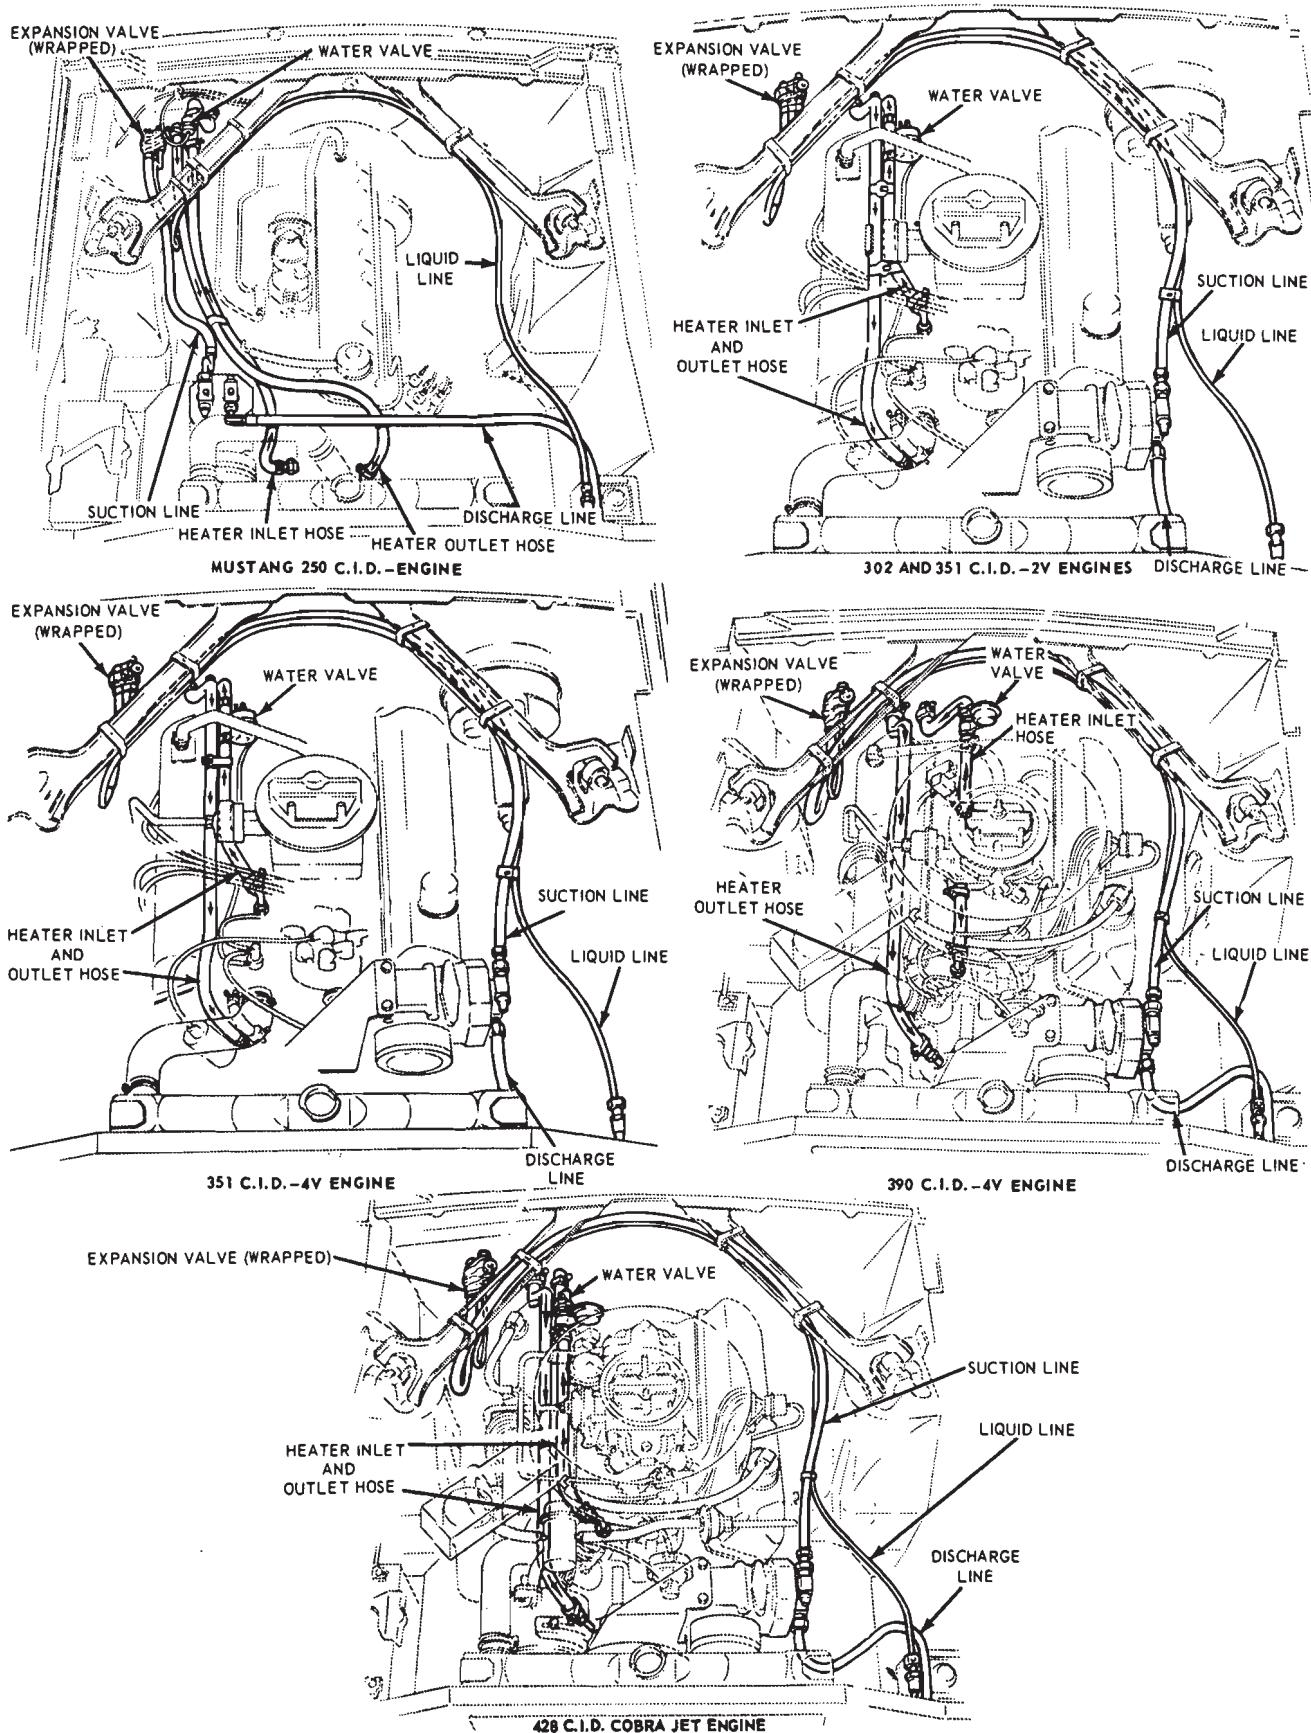

FIG. 52—Heater and Refrigerant Hose Routings—Mustang and Cougar
condenser. Tighten the lower fitting (Fig. 52).
4. Disconnect the hose from the compressor-to-condenser at the condenser (Fig. 52).
The heater-air conditioner hose routings are shown in Fig. 52.